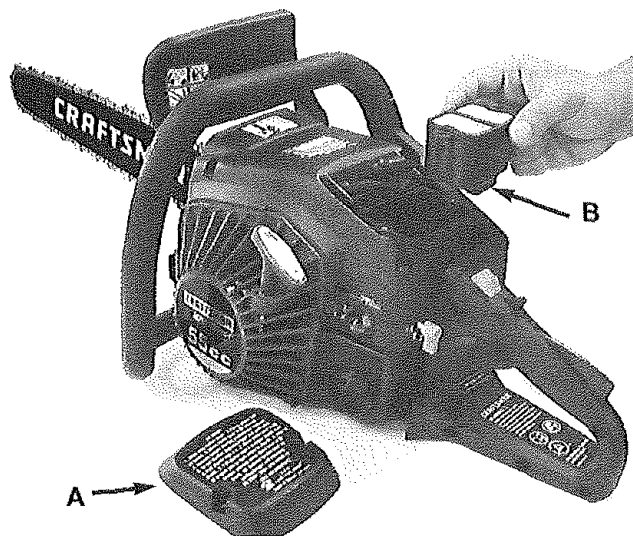

Fig. 31
1. Remove the top cover (A) by loosening the cover retaining screws. Cover will lift off (Fig. 31).
2. Clean air filter (B). Wash filter in clean, warm, soapy water. Rinse in clear, cool water. Air dry completely.